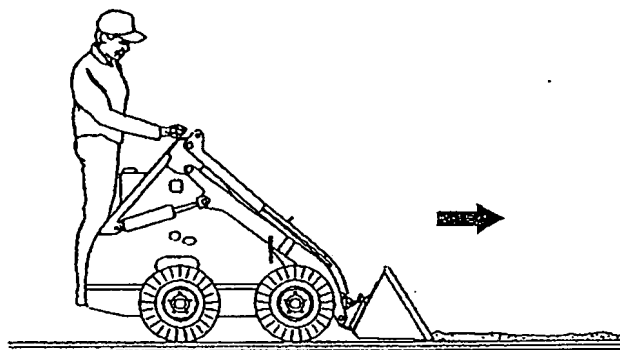

FIGURE 18
3. Another method of levelling is to travel forward with bucket down and level, full of material and pushing excess into low areas. Depth is controlled by tilting the bucket slightly up or down, as in Figure 18.